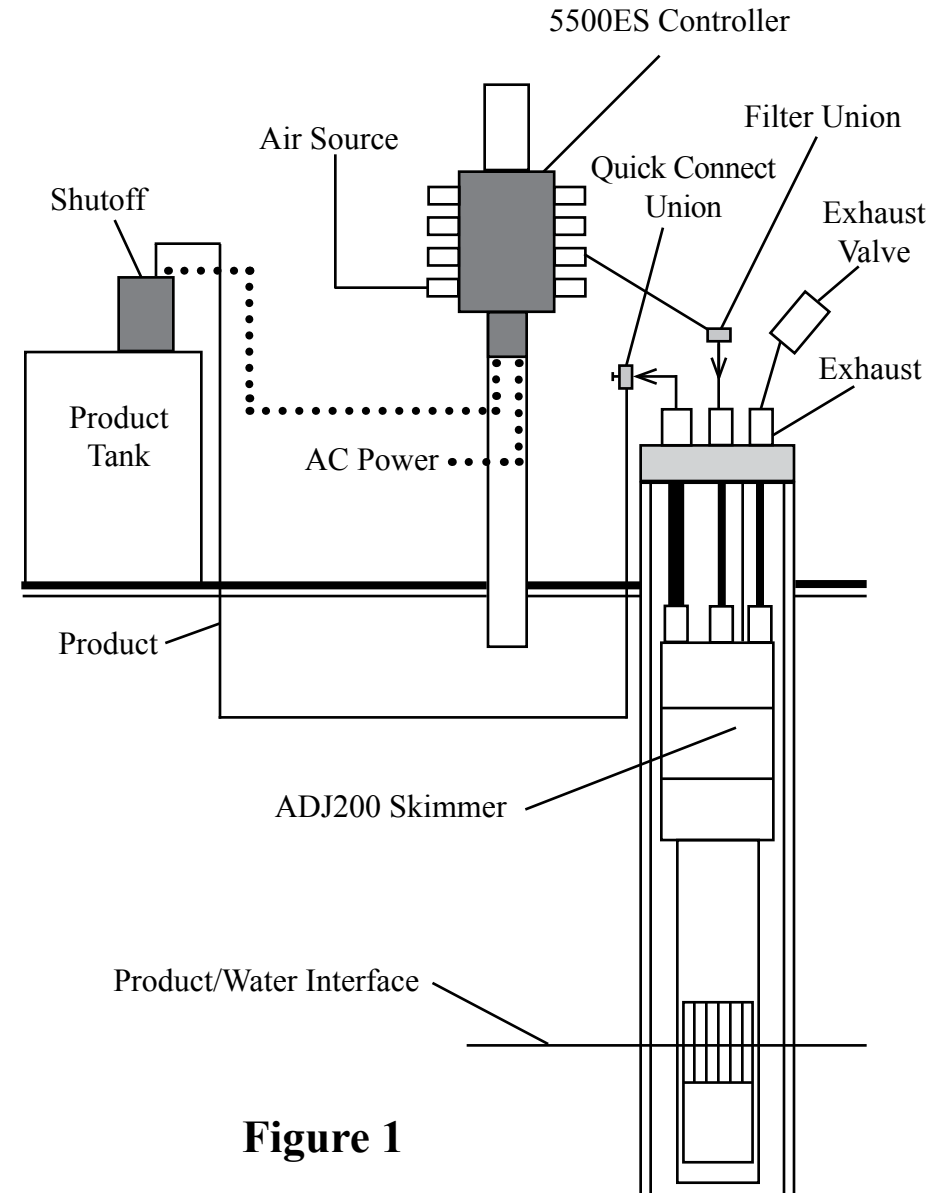
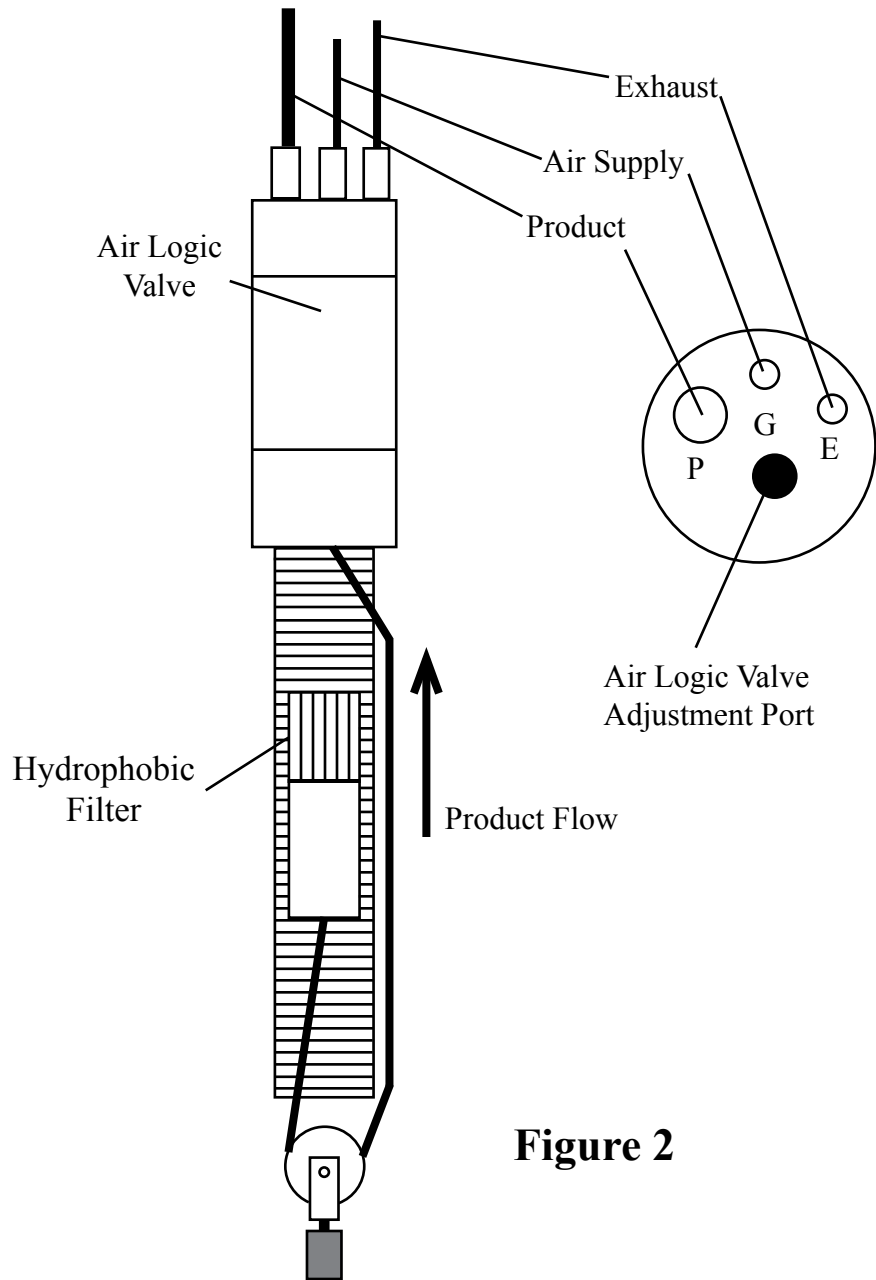

Figure 1
Figure 2
The system (Figure 1) relates to floating hydrocarbon recovery in wells two inches in diameter and larger. This system includes: an intrinsically safe ADJ200 pneumatic Smart Skimmer (Figure 2) which removes only the product to a sheen down to 200 feet deep; and a programmable Controller Model 5500ES which operates up to 16 skimmers intermittently, records run time, and has a high level tank shutoff assembly.
STEP 7. Position the skimmer and well cap on the ground near the well. Cut a length of 1/4" OD air supply tubing to cover the distance from the top of the well down to water/product interface, plus 5 feet. **NOTE:** If the skimmer is over 70 feet deep, use 3/8" OD air supply tubing in stead of 1/4" OD tubing. Slide enough tubing through the well cap and attach the end of the tubing to the top of the skimmer tube fitting labeled "G" (Figure 2). If the product thickness is greater than 1 foot, position the skimmer's "Black Reference Line" on skimmer well screen 1 foot below top of product. If the product thickness is less than 1 foot, position the skimmer's "Black Reference Line" on skimmer well screen at the water/product interface.
STEP 8. Cut a length of 5/16" OD product tubing same length as the air supply line. Install 5/16" OD product tubing through the well cap tube fitting labeled "P" (Figure 2). Slide enough tubing through the well cap and attach the end of the tubing to the top of the skimmer tube fitting labeled "P". **CAUTION:** Do not kink the tubing.